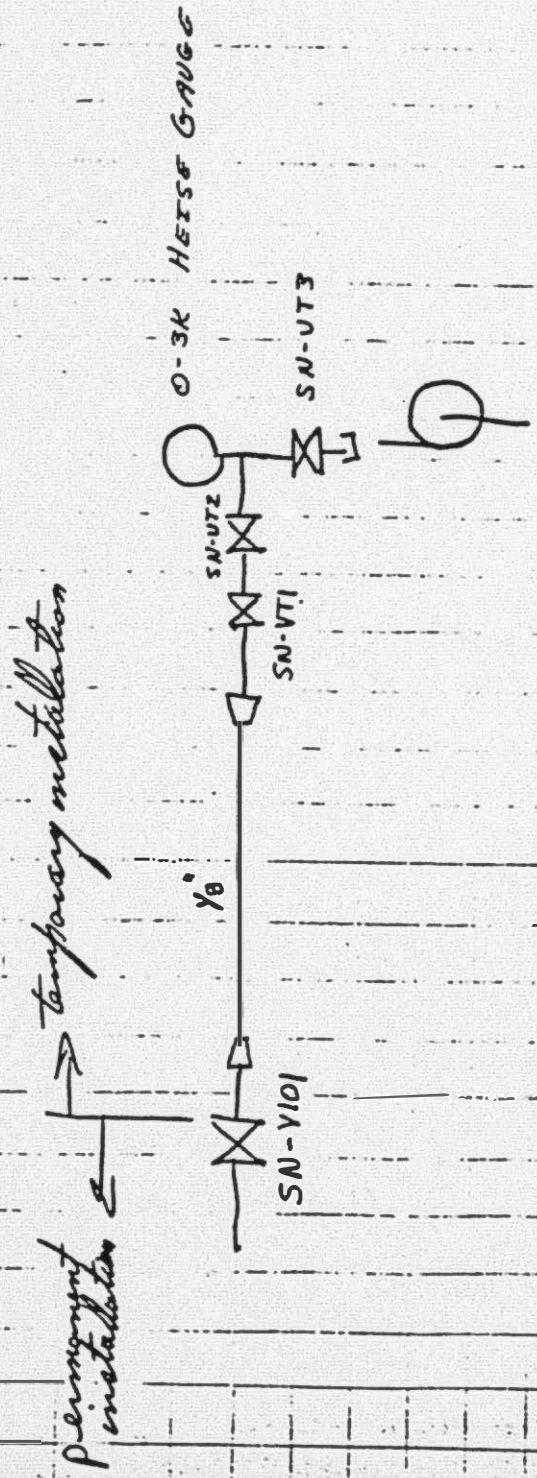

FIGURE 1
3. With SN-VT3 closed, hook up Ascroft hand pump to SN-VT3. (see figure 1.)